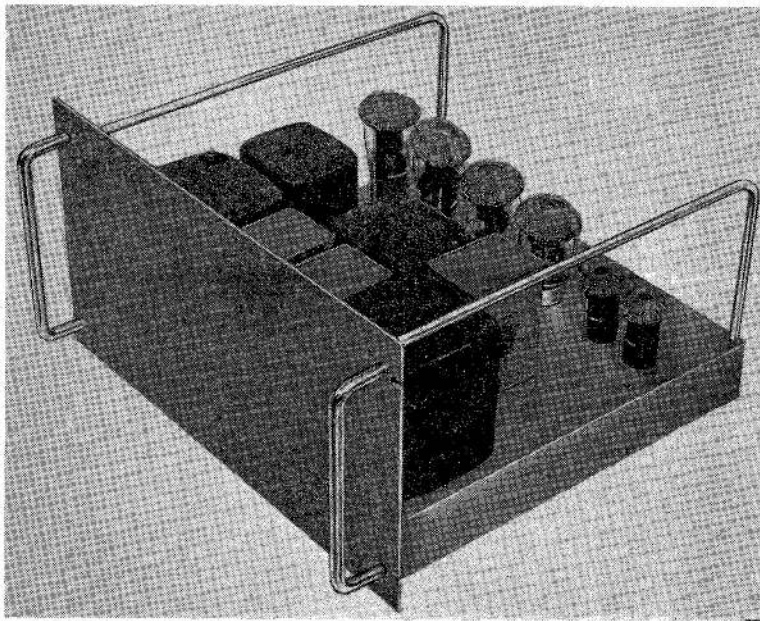

Fig. 1. Power Amplifier, Ultra, Type QT4063
1. Power amplifier. Type QT4063 (*fig. 1*) is a 400 c/s power amplifier capable of providing a power output of 50VA. The amplifier is controlled by a 400 c/s signal from a separate, Wien bridge oscillator, in test set QT4066, and operates from a 115V or 230V (nominal) mains supply.